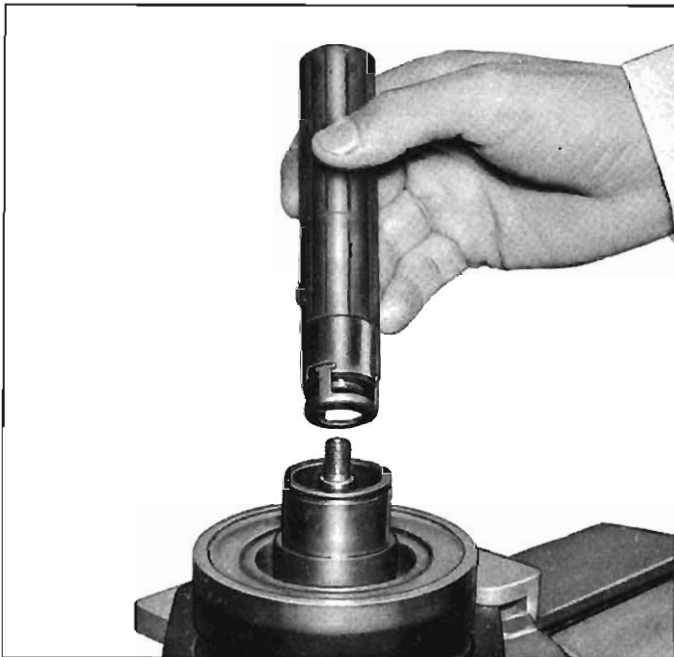

Fig. 11-42—Replacing Seal
1. Engage seal onto the locking tangs of Tool J-9392 (fig. 11-42) and carefully insert the seal and tool over the end of the shaft. Turn seal to engage the flat on the shaft, then remove the tool.